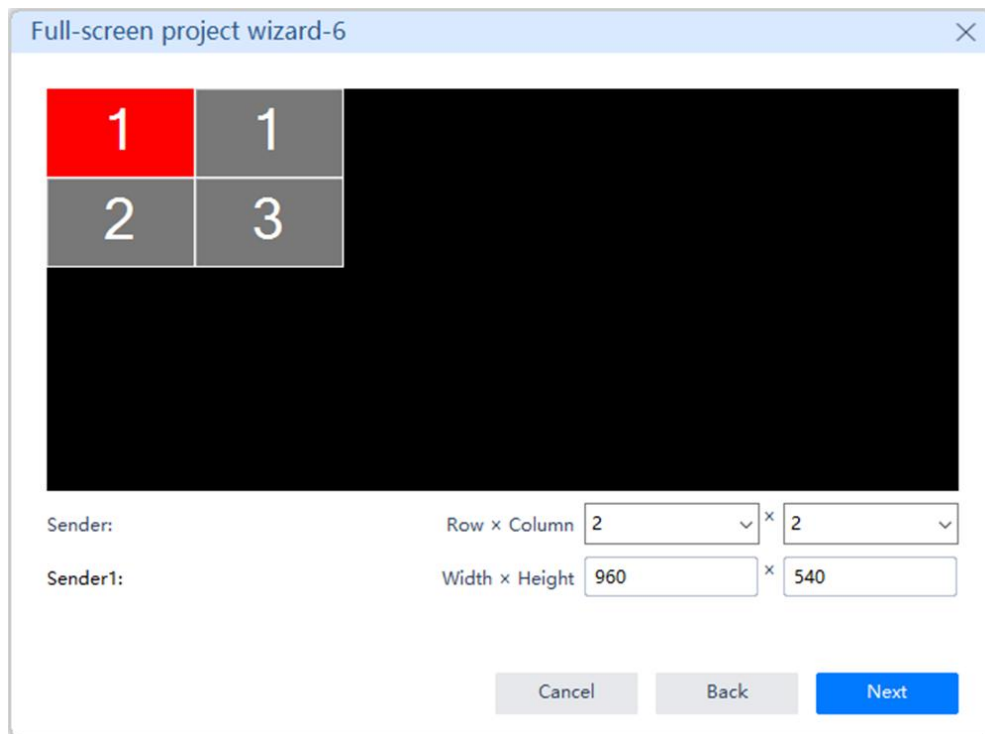

Fig 4-21 Sender layout settings
- When *Calibration Pro* has detected more than 1 sender, you will need to set the sender layout before continuing the wizard-6. See Figure 4-21.
In this step, you should enter the rows and columns of the senders according to their real layout. Click a sender to set its size and position in the load area. You can also exchange the control area and position of two senders by dragging them in this interface. Once you have finished the sender settings, you can click **Next** to move on to the setup of **Margins** and do as described above. See Figure 4-21.